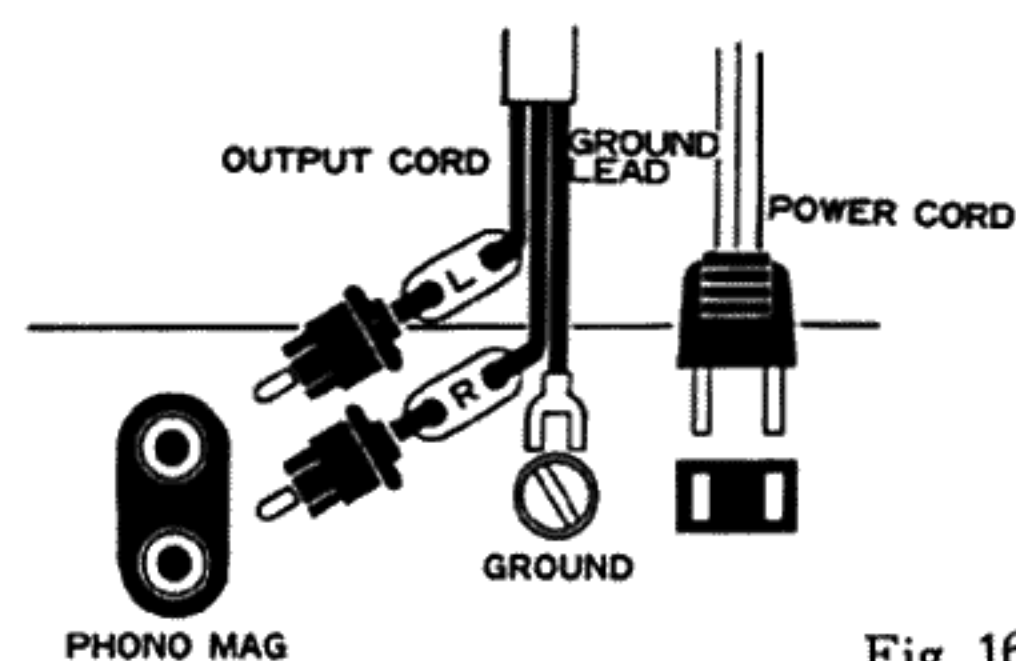

Fig. 16
1. The output cord of PL-50 has three leads at its end; the first is marked "L", the second, "R", and the third colored in black. Connect the "L" leads to the respective PHONO MAG input jacks of your stereo amplifier; "L" is for the left channel connection and "R" for the right channel connection. (Fig.16)
2. The black lead is for ground connection and has a terminal lug on its end. Connect the lug to the ground terminal on your amplifier. (Fig.16)